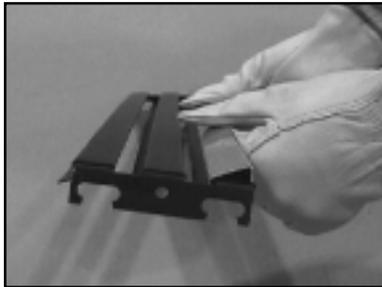

Figure 19
7. **Optional Grille Brass Trim.** To place the brass trim on the upper grille and control access panel, place the angled side of the brass trim onto the louver first. From the center of the trim piece, press the bottom edge of the trim onto the louver, moving out to each end. See Figures 19 and 20.